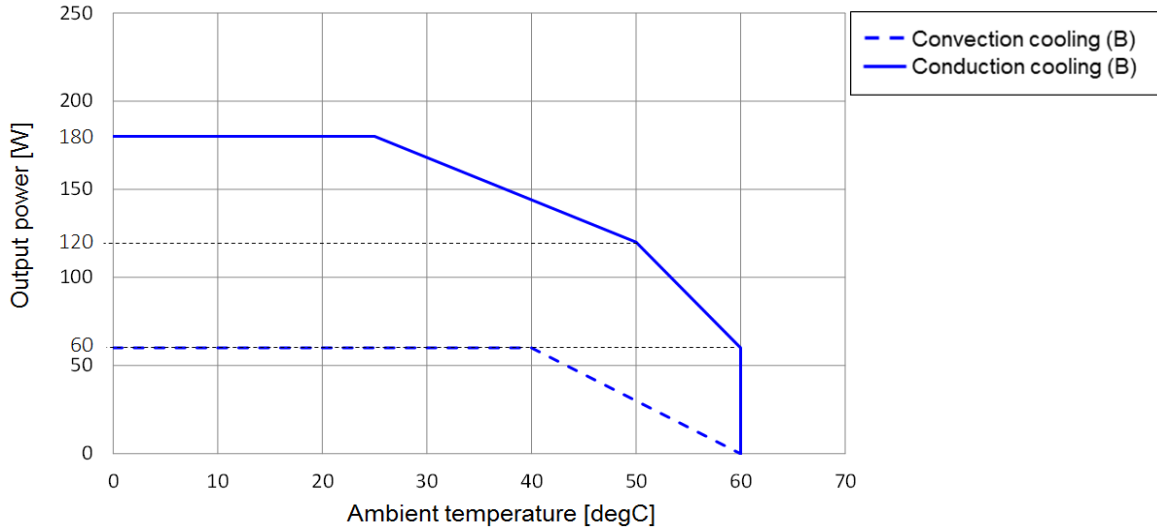

Fig 2.6 Conduction cooling at (B) mounting
The derating curve comparison between conduction cooling and convection cooling (B) mounting is shown in Fig 2.6.